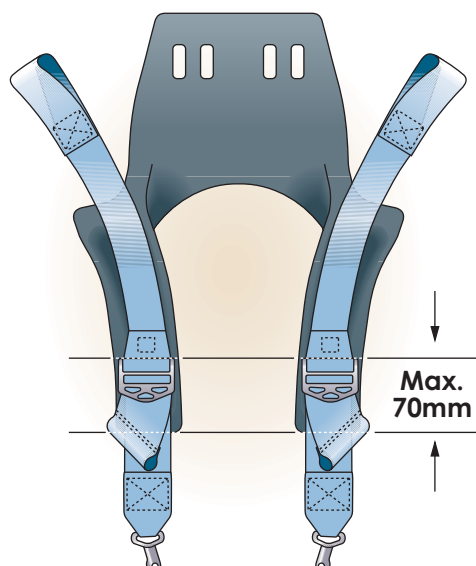

Figure 1. Correct position of shoulder strap length adjustment device on HANS® yoke
2.2 The length adjustment device of the shoulder belt shall be positioned on the HANS® yoke with the upper edge not more than 70mm from the lower edge of the HANS® yoke as shown in Figure 1 (this does not apply in the case of the double shoulder belt system described in point 2.5).